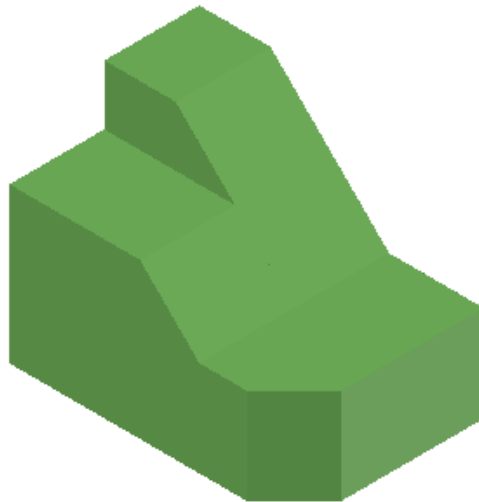

Figure Step 11A
Step 11 Change the current visual style to Realistic. Using the 3DFORBIT command, ensure that the complete model is surfaced. (Figure Step 11A and 11B)